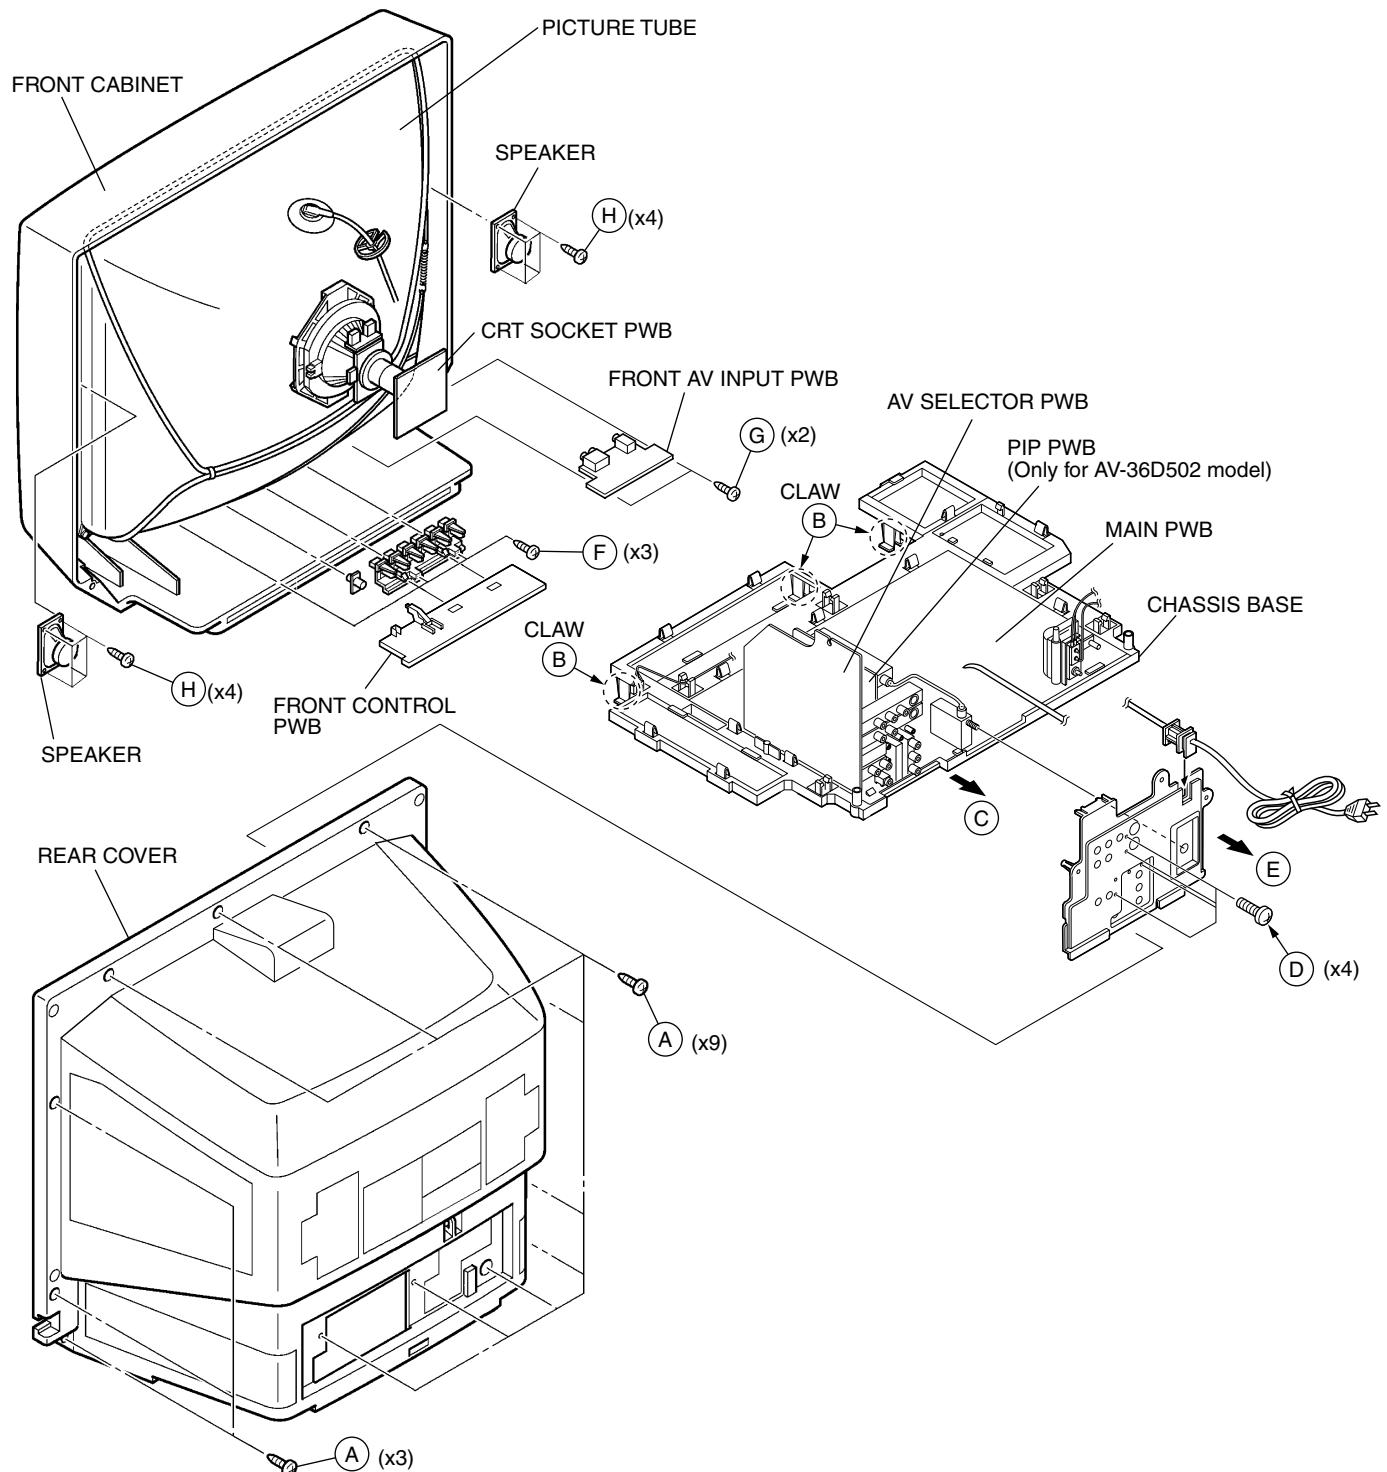
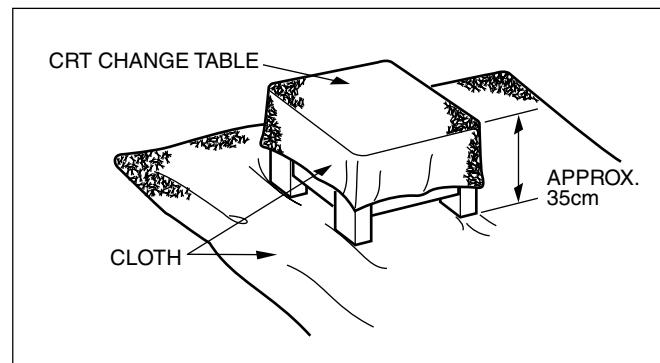

Fig.1
Fig. 2
2. Remove the 12 screws marked **(A)** as shown in Fig.1.
1. Slightly raise the both sides of the chassis by hand and remove the 3 claws marked **(B)** under the chassis from the front cabinet as shown in Fig.1.
2. Withdraw the chassis backward along the rail in the arrow direction marked **(C)** as shown in Fig.1.
1. Remove the 4 screws marked **(D)** as shown in Fig.1.
2. When you pull out the TERMINAL BOARD in the direction of arrow marked **(E)** as shown in Fig.1, it can be removed.
1. Remove the 3 screws marked **(F)** and the 2 screws marked **(G)** as shown in Fig.1.
1. Remove the 4 screws marked **(H)** as shown in Fig.1.
- 1. Putting the CRT change table on soft cloth, the CRT change table should also be covered with such soft cloth (shown in Fig. 2).
(1) Power off Switch off the power and disconnect the power cord from the outlet.
(2) Replace the memory IC Initial value must be entered into the new IC.
(3) Power on Connect the power cord to the outlet and switch on the power.
(4) System constant check and setting 1) Press SLEEP TIMER key and, while the indication of "SLEEP TIMER 0 MIN." is being displayed, press DISPLAY key and VIDEO STATUS key on the remote control unit simultaneously. 2) The SERVICE MENU screen of Fig.1 is displayed. 3) While the SERVICE MENU is displayed, again simultaneously press the DISPLAY and VIDEO STATUS keys to display the Fig.2 SYSTEM CONSTANT screen. 4) Refer to the SYSTEM CONSTANT table and check the setting items. Where these differ, select the setting item with the MENU UP/DOWN key and adjust the setting with the MENU LEFT/RIGHT keys. (The letters of the selected item are displayed in yellow.) 5) After adjusting, release the MENU LEFT/RIGHT key to store the setting value. 6) Press the EXIT key twice to return the normal screen.	 [AV-36D202, AV-36D302]
(5) Receive channel setting Refer to the OPERATING INSTRUCTIONS(USER'S GUIDE) and set the receive channels (Channels Preset) as described.	 [AV-36D502]
(6) User settings Check the user setting items according to Table 2. Where these do not agree, refer to the OPERATING INSTRUCTIONS (USER'S GUIDE) and set the items as described.
(7) SERVICE MENU setting Verify what to set in the SERVICE MENU, and set whatever is necessary.(Fig.1) Refer to the SERVICE ADJUSTMENT for setting.	 Fig.1